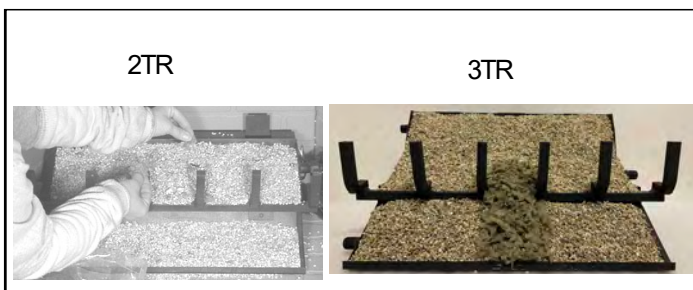

Figure 7.5 Rock Wool Placement
4. Lightly place dime-size pieces of rock wool evenly all over the vermiculite to achieve a glowing ember effect. See Figure 7.5.